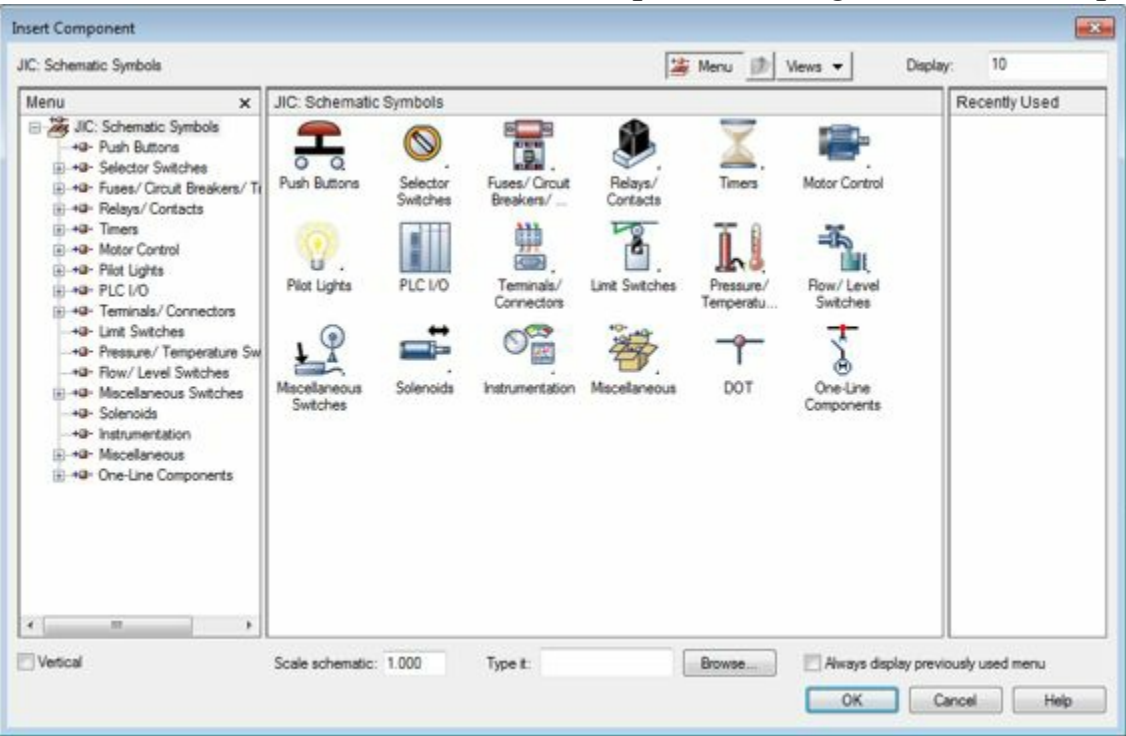

Figure-66. Insert Component dialog box by default
- Click on the  button. The Insert Component dialog box will be displayed; refer to Figure-66.